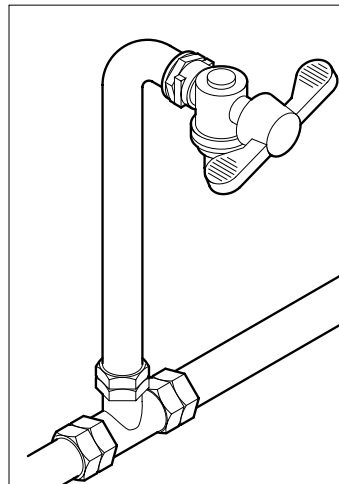

Fig. 6.3
- install, if not present, a tap in an accessible position to isolate the machine from the water mains should it be found to be necessary (Fig.6.3).